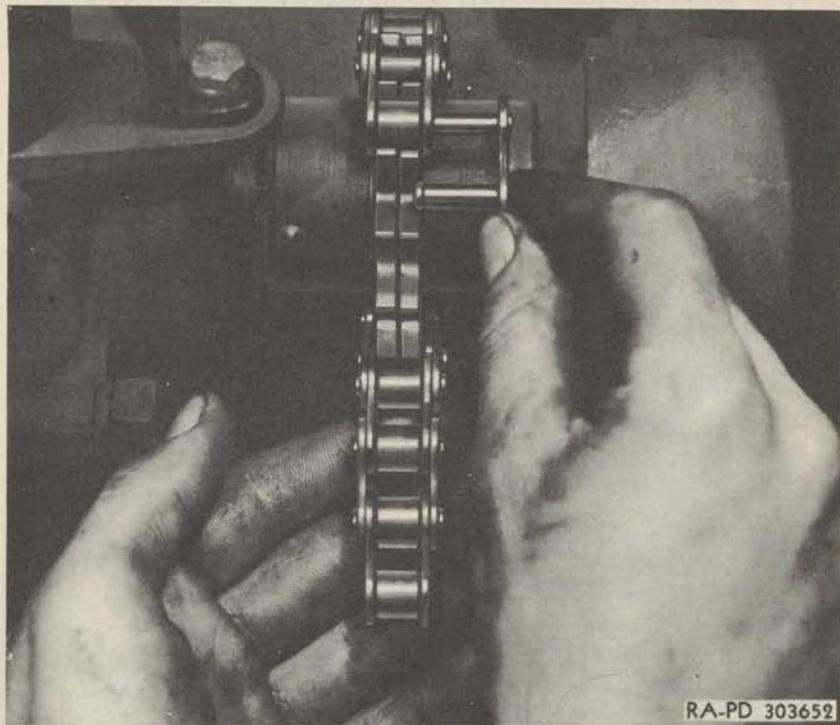

Figure 74—Removing Coupling Chain
(5) **DISCONNECT CHAIN.** Remove the lock clip from the coupling pin and connecting link and remove the coupling link from the chain. Then unwrap the chain from the sprocket (fig. 74).